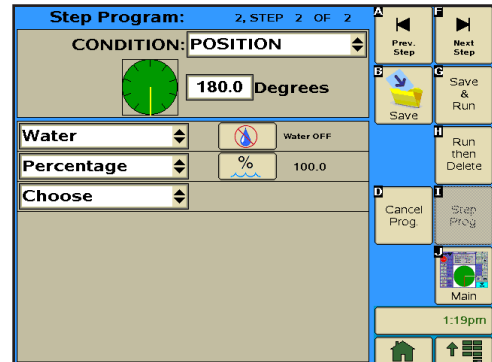

Figure 126-1
7. Program the position condition for this step. Refer to Figure 126-1.